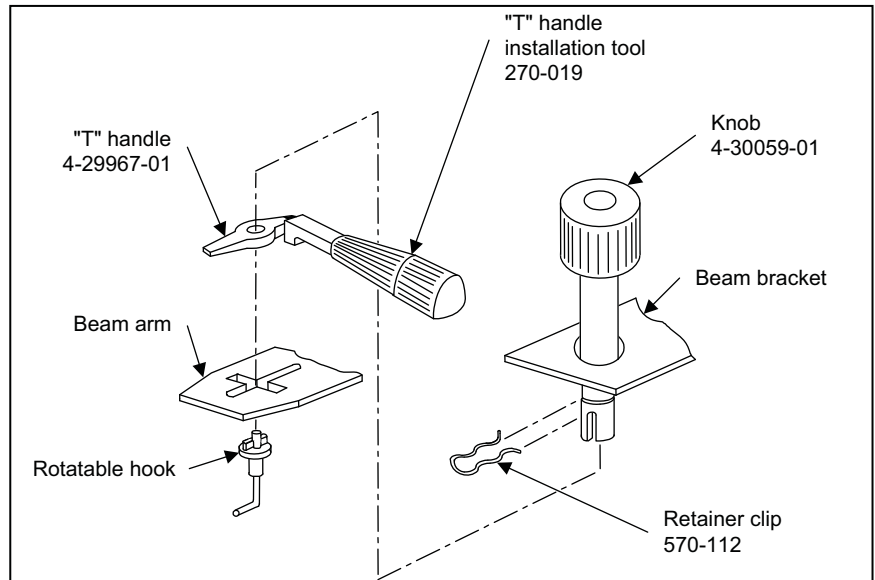

Figure 3-3. B100R Rotatable Beam and Hook Assemblies
- 2 Insert the hook assembly into the beam assembly and align "T" pin with the slot in the beam (see figure 3-3). Gently apply pressure to both the hook and the insertion tool in a manner which allows the "T" to pass through the slot in the beam and penetrate into the slot in the insertion tool.
- 7 Turn the adjustment screw in the knob to obtain clearance as shown in figure 3-3. This will prevent the “T” handle from flying off during operation.